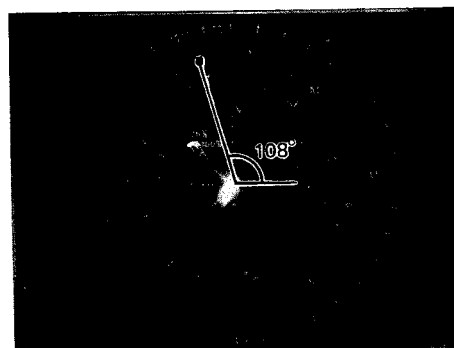

Fig. 5-6-31
- o Observe the vectorscope and adjust CT1 (EXT TITLE COLOR PHASE) so that the red vector becomes 108° on the vector scope. (Fig. 5-6-31)